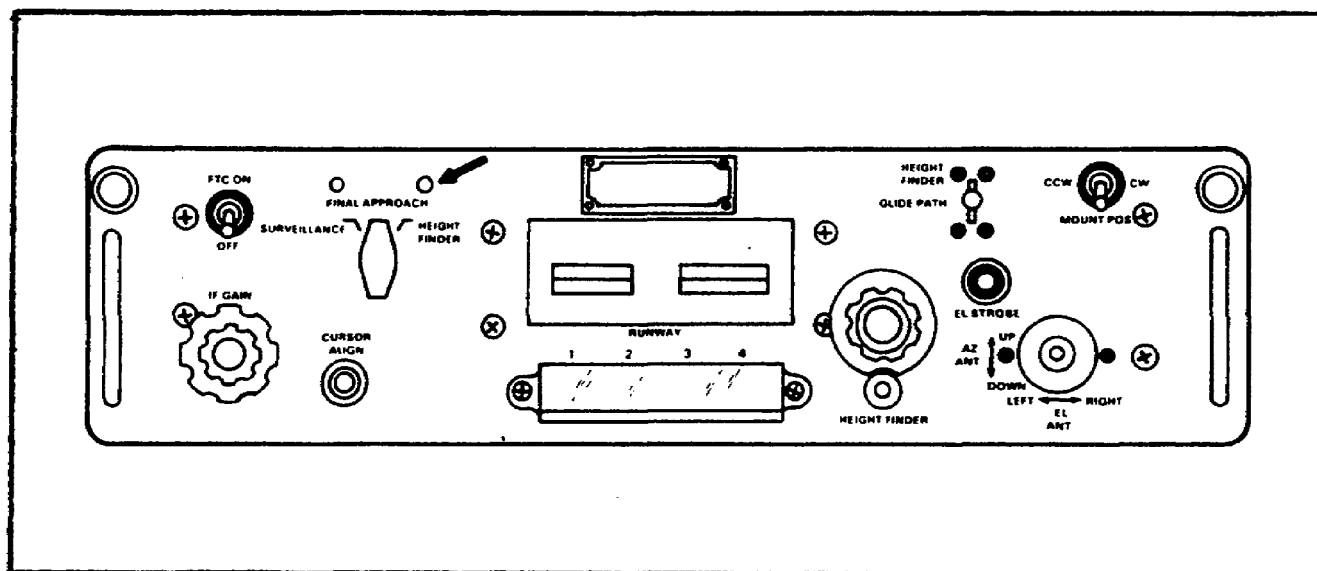

Figure 6. Control, radar C-2074/FPN-33.
e. Locate surveillance final approach height FINDER switch S-2802 on control, radar C-2074/FPN-33. (See Figure 6.)